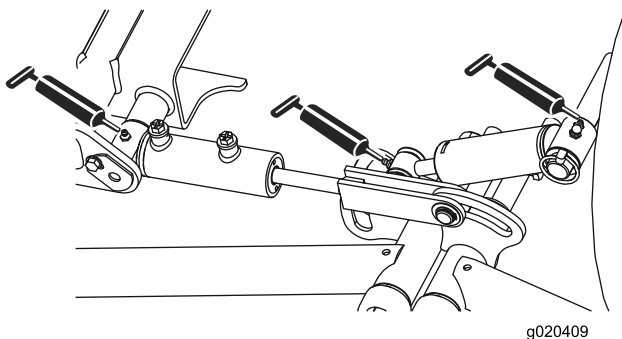

Figure 43
- Front lift arm pivots and lift cylinders (3 each) (Figure 43)